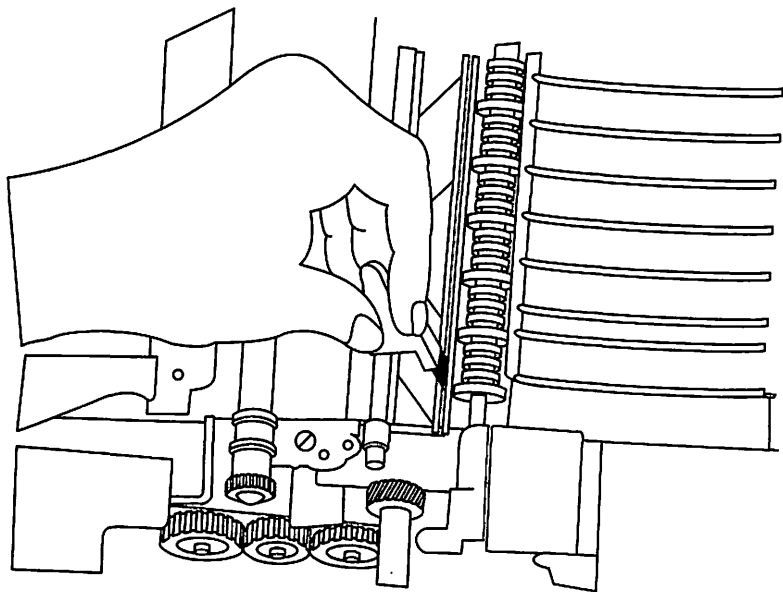
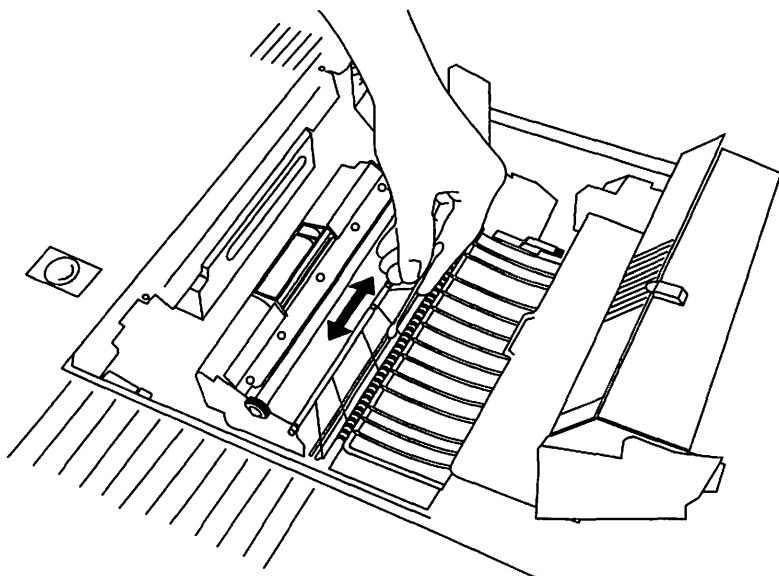

Figure 30 *Cleaning the discharge pins.*
Figure 31 *Cleaning the transfer corona wire.*
9. Clean the discharge pins, as shown in Figure 30, with the green plastic cleaning brush stored inside of the LaserWriter.
Take extreme care during all internal cleaning operations not to break any of the fine wires inside of the LaserWriter. They are quite fragile and not designed to withstand rough handling. These fine wires—the transfer corona wire and the transfer guide wires—are illustrated in Figure 30 and Figure 31.
11. Carefully clean the transfer corona wire with the cotton swab packaged with the new toner cartridge, as shown in Figure 31.
Take extreme care during all internal cleaning operations not to break any of the fine wires inside of the LaserWriter. They are quite fragile and not designed to withstand rough handling. These fine wires are illustrated in Figure 30 and Figure 31.